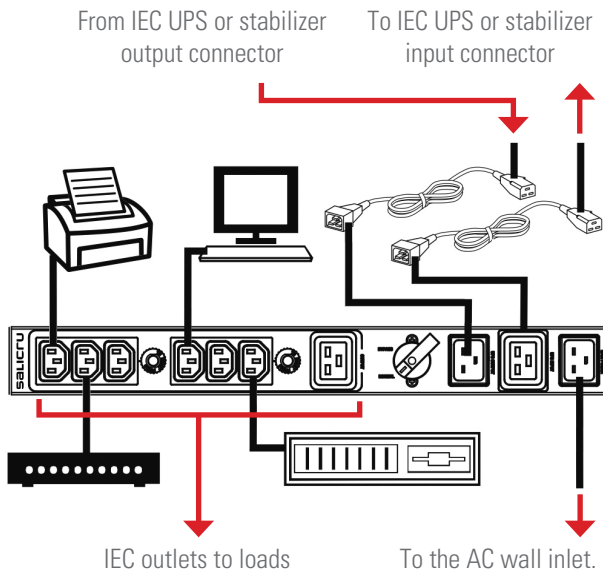

Fig. 7. Example of 3 kVA manual bypass wiring.
- Illustrations of Fig. 7 and/or 8 show how to connect the manual bypass with a UPS or stabiliser and loads, depending on its power rate.